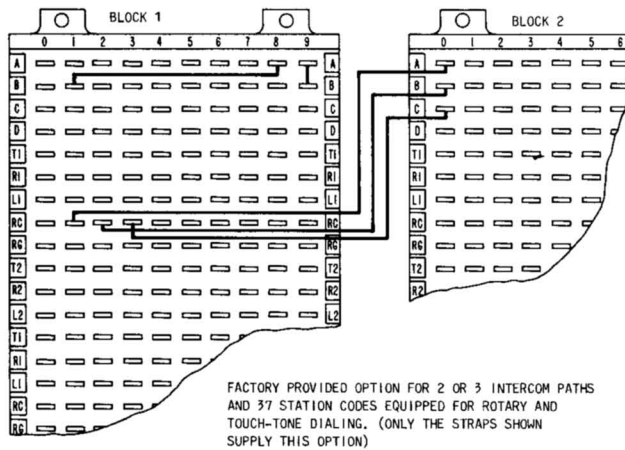

Fig. 8—FW Option
4.02 The FW option (Fig. 8) is a factory-provided option. The FW option provides for two or three intercom paths with 37 station codes.